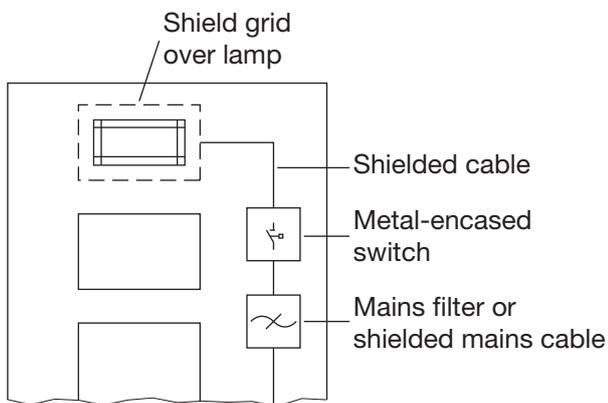

Fig. 5: Interference suppression of fluorescent lamps in cabinet
- ▶ Cabinet lighting: Use filament lamps (e.g. LINSTRA lamps) for the cabinet lighting. Do not use fluorescent lamps because they generate interference fields. If the use of fluorescent lamps cannot be avoided, the interference suppression measures shown in Fig. 5 must be implemented.